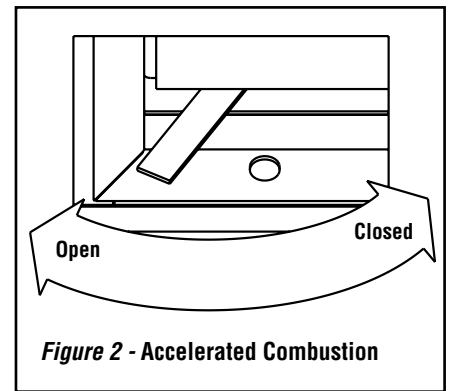

Figure 2 - Accelerated Combustion
- A) Completely open the combustion air control (see **Figure 2**).